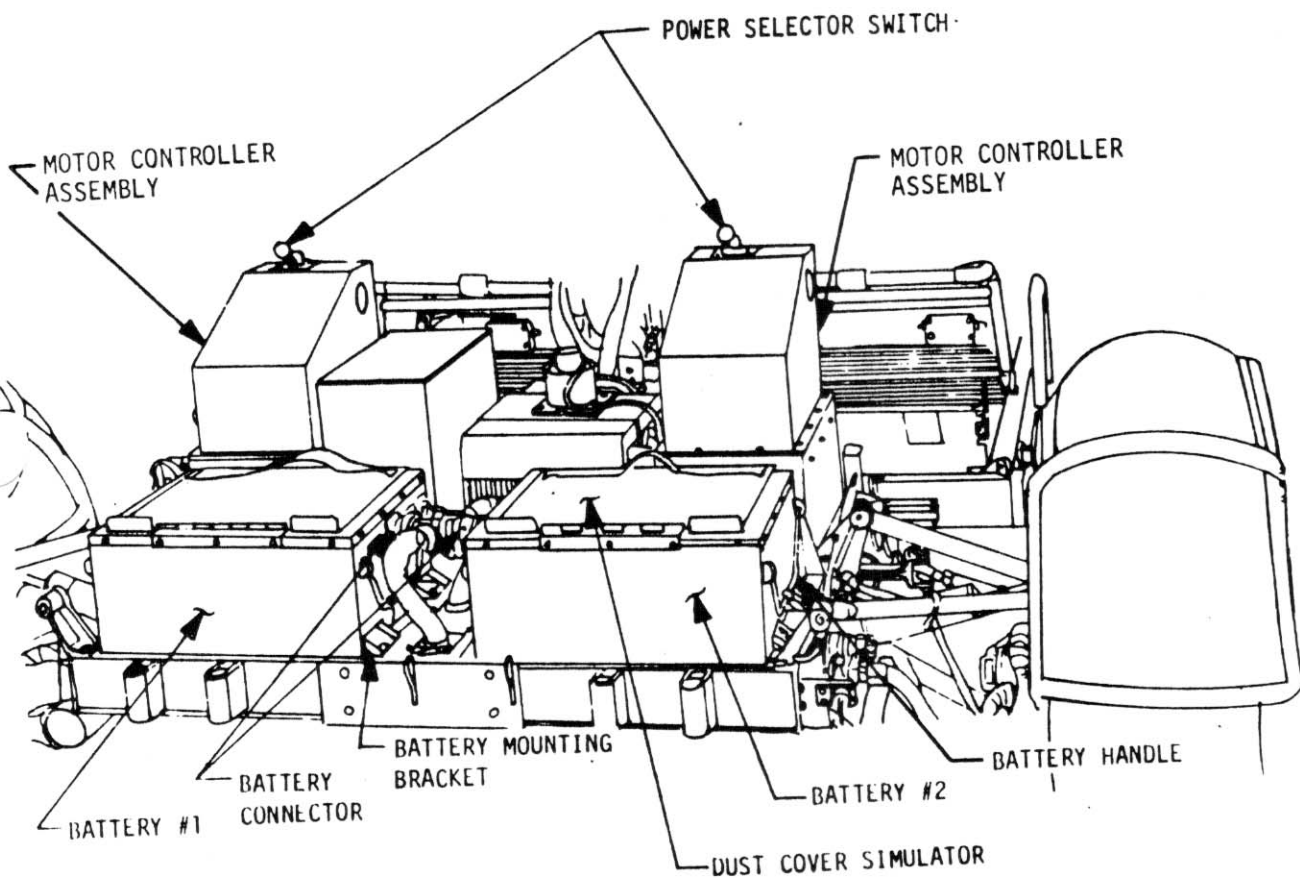

FIGURE 8-12 1G TRAINER BATTERY INSTALLATION
- 6) Place power selector switch (figure 8-12) for the battery to be changed out in the OFF position. Do not operate the selector switch for the other battery.
- 7) Disconnect the battery connector from the battery to be changed out (figure 8-12).